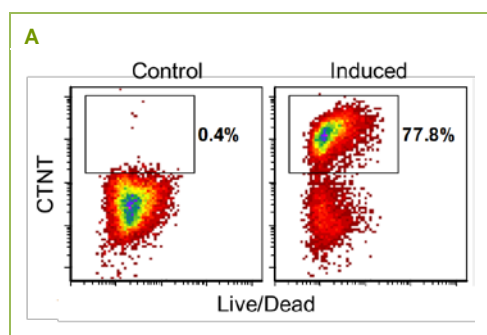

Figure 1: Flow Cytometry Detection of cTNT Expression in Cardiomyocytes Differentiated from XAV939/SB431542-induced iCell Cardiac Progenitor Cells
4. Plot the percent of cTNT⁺ cells (Y-axis) against the treatment condition (X-axis) (Figure 1).